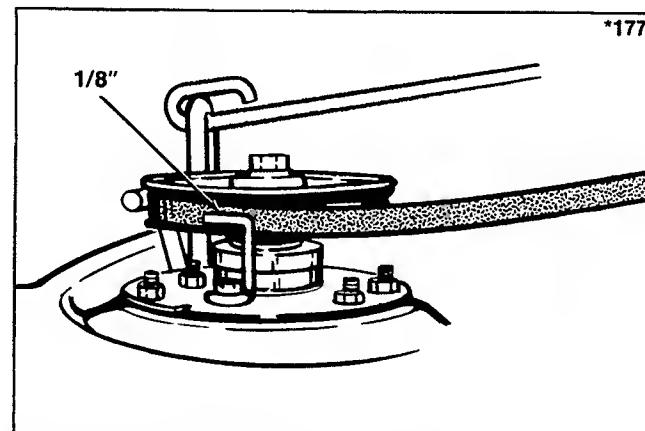

Figure 19. Left Mower Pulley Belt Stop
1. Adjust the belt stop on the left mower pulley so there is $1/8$ inch (3 mm) clearance between belt stop and belt when PTO is engaged. (See figure 19).